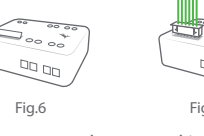

Fig.6
- ① Unclench the cover of the interface. (Fig.6)